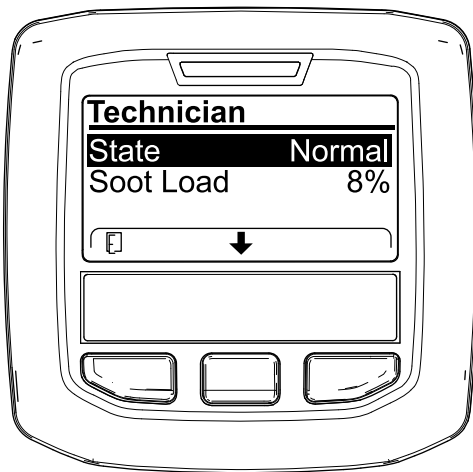

Figure 61
- Use the DPF operation table to understand the current state of DPF operation (Figure 61).